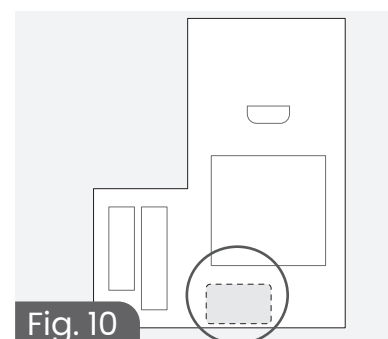

Fig. 10
1. **Locate** the shipping label on the left side of the box (Fig 10).